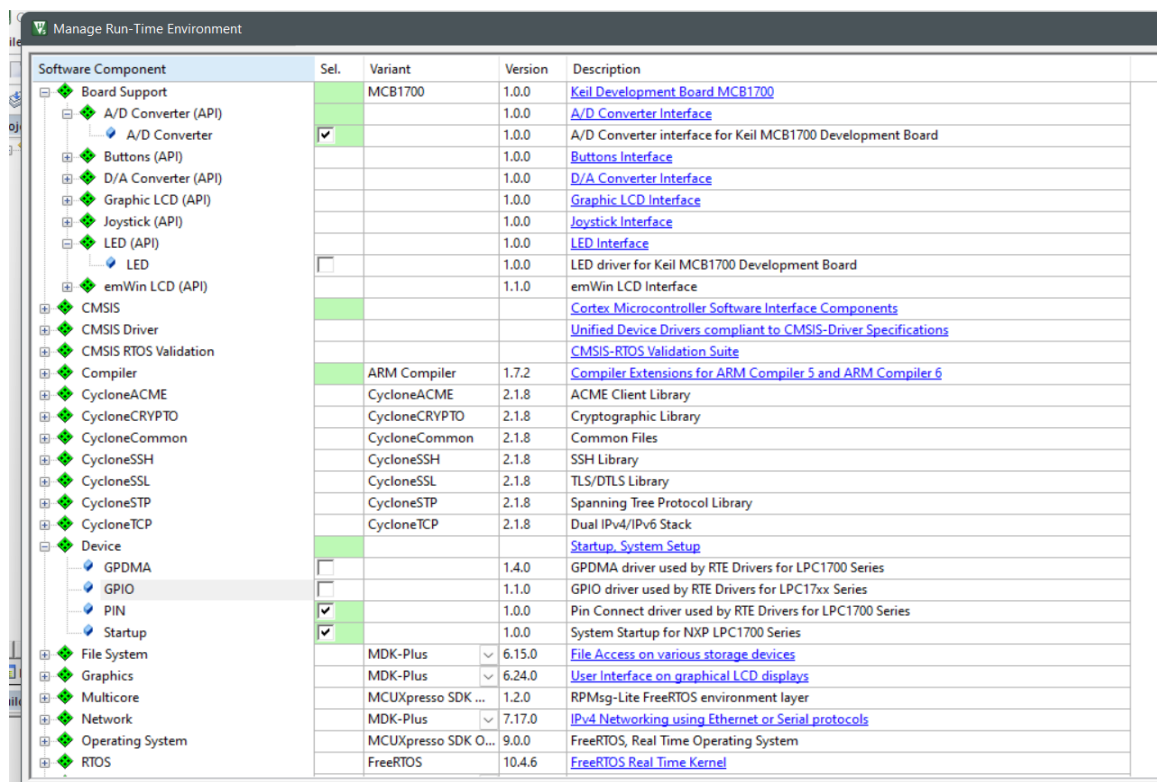
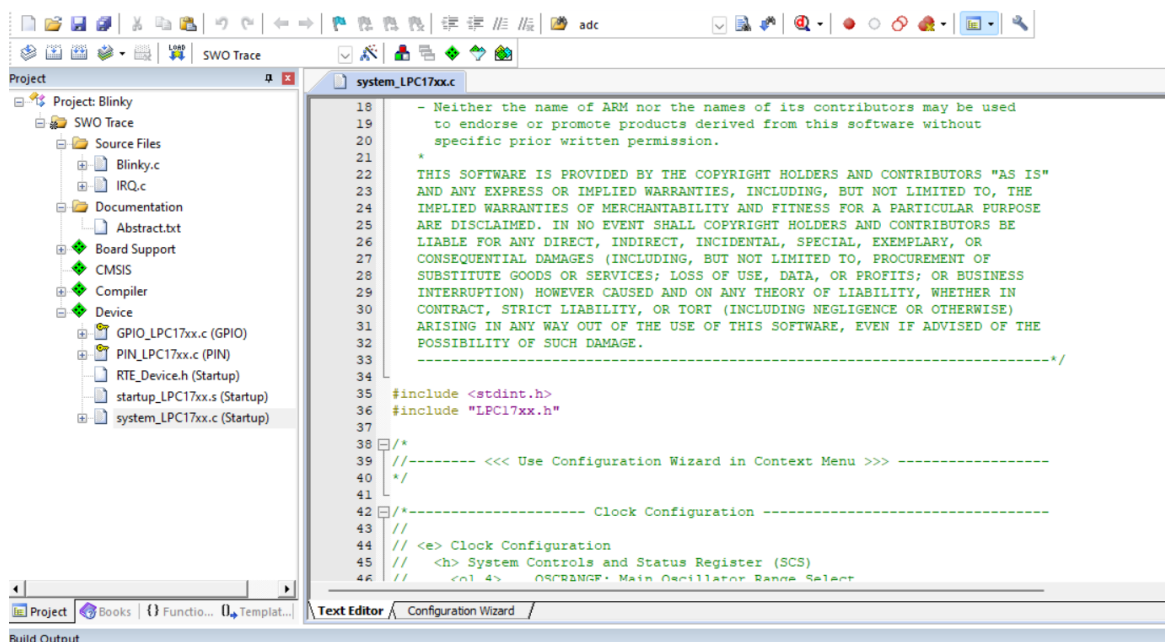

Fig. 8: Manage Run-Time Environment
Fig. 9: Project Workspace
9. You will get a new screen Manage Run-Time environment as given in Figure 8. Select A/D converter box and unselect LED under Board Support. Unselect GPIO box under Device. Then click OK and you will come back to your project workspace as shown in Figure 9.